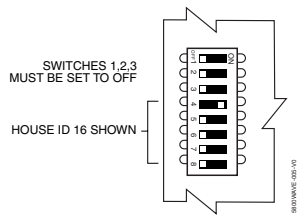

Figure 3. DIP Switch Settings
5. Set DIP switches 4-8 to the appropriate House ID (1-31) See Figure 3. The House ID set by the DIP switches should match that entered in the control.